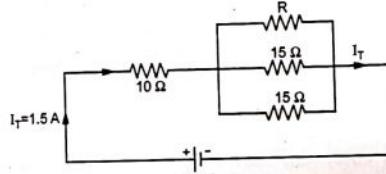

Fig. 1.9.3
**Sol.:** The arrangement is shown in the Fig. 1.9.3. The resistance  $R$  is required to be shunted across parallel combination.